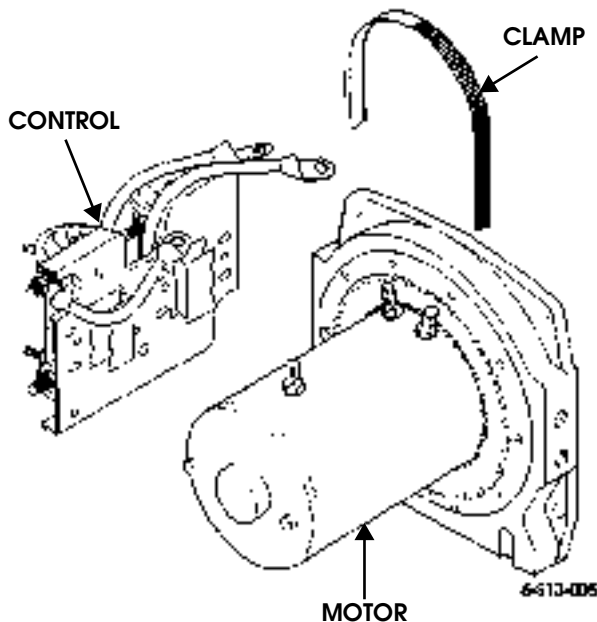

Figure 9-163: Control Unit
3. Loosen clamp and remove control from motor (Figure 9-163).